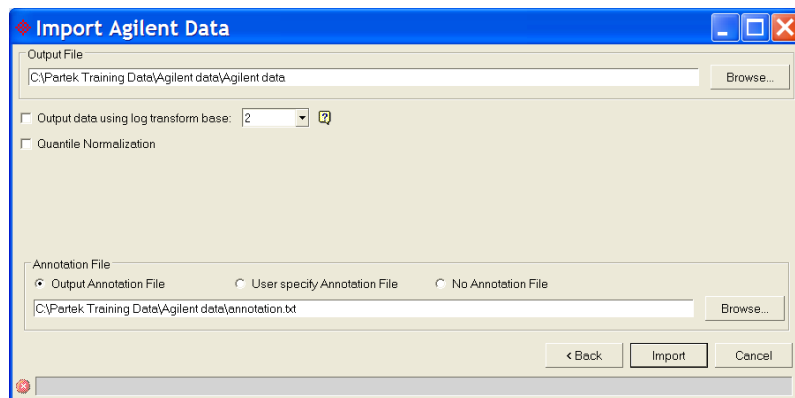

Figure 4: Selecting the Output and Annotation files
- Once all the selections have been made, select **Next** and the final dialog box will appear as shown in Figure 4 below